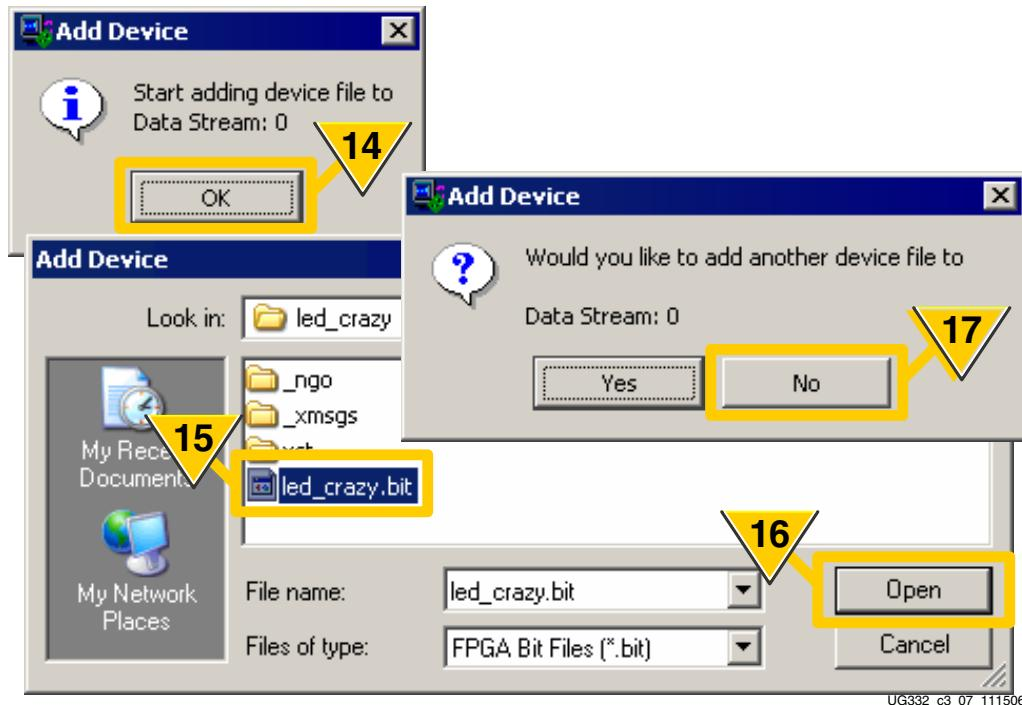

Figure 3-12: Add FPGA Configuration Bitstream File(s)
- As shown in Figure 3-12, click OK to start adding bitstream files.